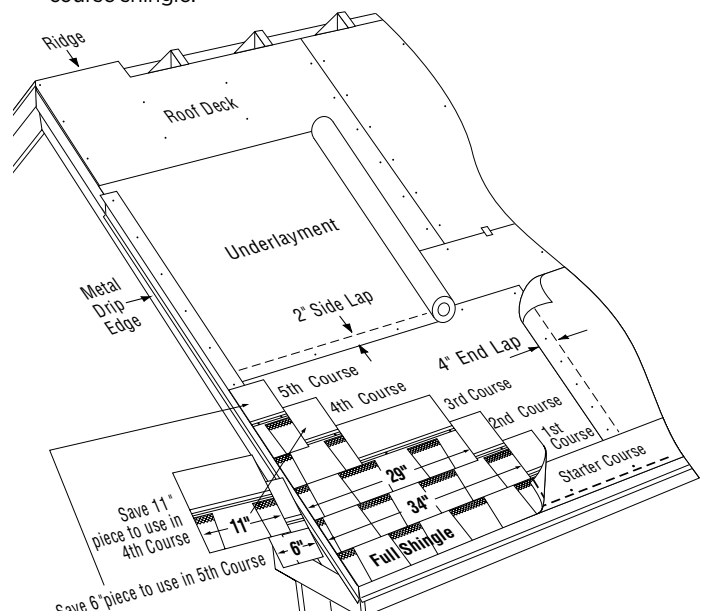

Figure 12-6: Applying the first 5 courses of Landmark TL.
1. Use CertainTeed Swiftstart® Starter, or three-tab self-sealing shingles with the lower tab portions removed. Be sure that the starter shingles are at least 7-5/8" in height. (Figure 12-6).
**1st Course:** Apply a full shingle at the lower left corner of the roof. Make the lower edge and left edge lie flush with the edges of the starter course (Figure 12-6).